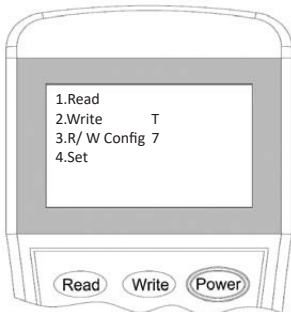

Figure 7
3. Switch-on the programming tool, then press button “**4**” to enter to Setting mode (Figure 7).